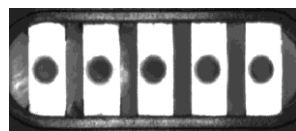

Figure 2 – enlargement of the image of a strip set
- Strip sets, where the need is to check for the presence of holes and any plastic material surplus at the edges (see Figure 2)